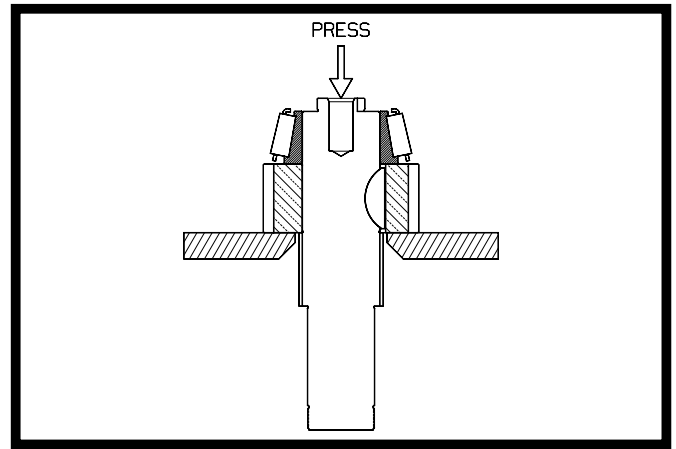

Figure 4.17
4. Invert the shaft assembly in the press so that the remaining gear is supported. See Figure 4.17. Remove the bearing cone assembly and the gear. Remove the woodruff key if necessary.